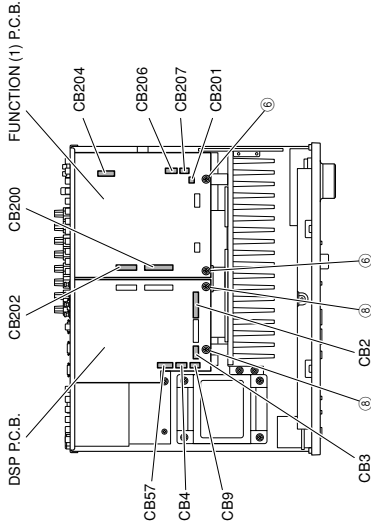

Fig. 2
- Remove 2 screws (⑥). (Fig. 2)
- Remove CB2-4, CB9 and CB57. (Fig. 2)
- Remove the DSP P.C.B.. (Fig. 2)